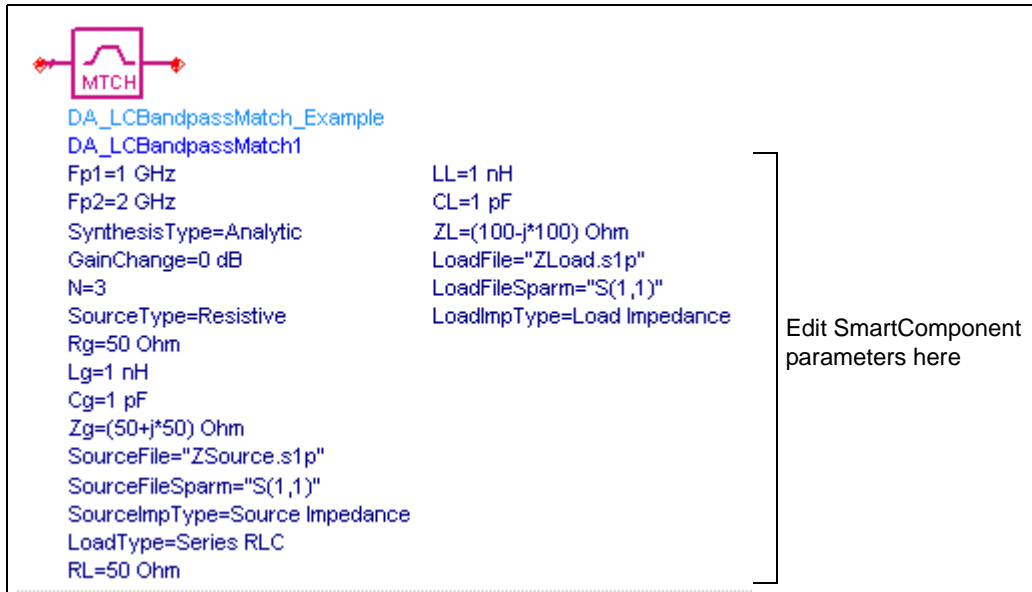

Figure 2-1. The LC Bandpass Matching Network Component
- Click the SmartComponent parameters in the schematic window and change them (see Figure 2-1.)